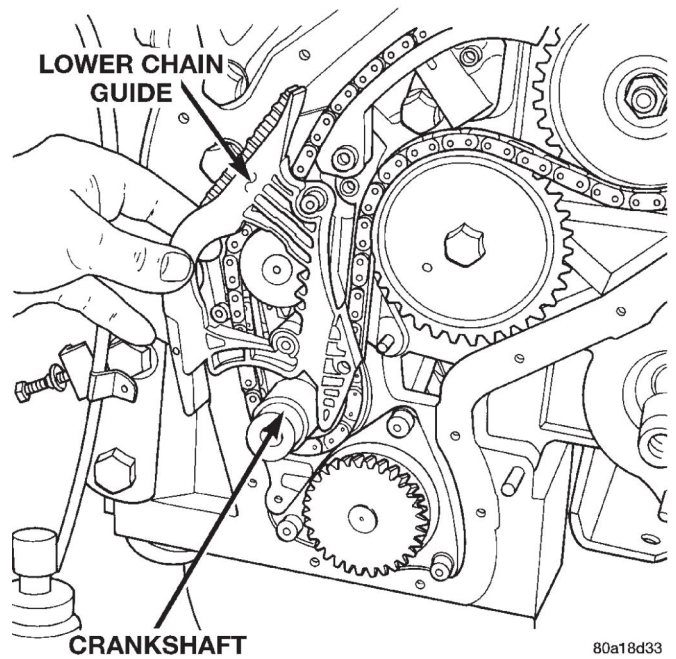

Fig. 68 Lower Chain Guide
- (11) Remove lower chain guide (Fig. 68).